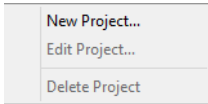

Figure C-17: Projects Tab Menu.
1. Right-click in a blank area in the **Projects** Tab to display the Tab menu (Figure C-17).